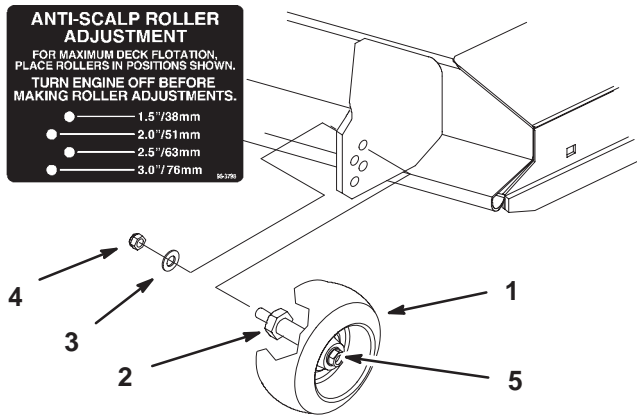

Figure 21
2. After adjusting height-of-cut remove flange nut and spring disk while holding stud with wrench (Fig. 21).
Note: Do not remove the wheel nut and washer (Fig. 21).
3. Select hole so gage wheel is positioned to the nearest corresponding height-of-cut desired (Fig. 21).
- Reinstall the flange nut and spring disk. Torque to 40–45 ft-lbs. (54–61 N•m) (Fig. 21).